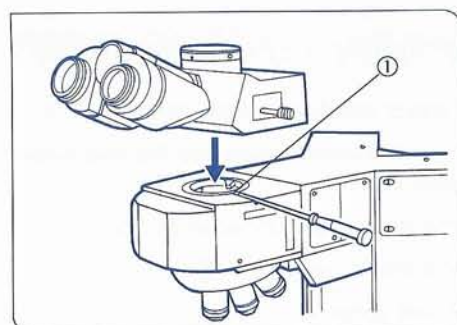

Fig. 15
1. Attach the sticker corresponding to the mounted objective with the lowest power at the hand switch magnification index position ①.
- ★ In the case of the quintuple nosepiece, skip the index position ⑥. Attach stickers with no magnification index at the numbers not used. (Fig. 15)
10 Mounting the Observation Tube (Figs. 15, 16)
1. Using the Allen screwdriver, loosen the observation tube clamping screw ①.
2. Insert the circular dovetail mount at the bottom of the observation tube into the opening on the microscope frame, positioning the observation tube to point the binocular eyepieces towards the front. Clamp the observation tube by tightening the clamping screw. (Fig. 15)